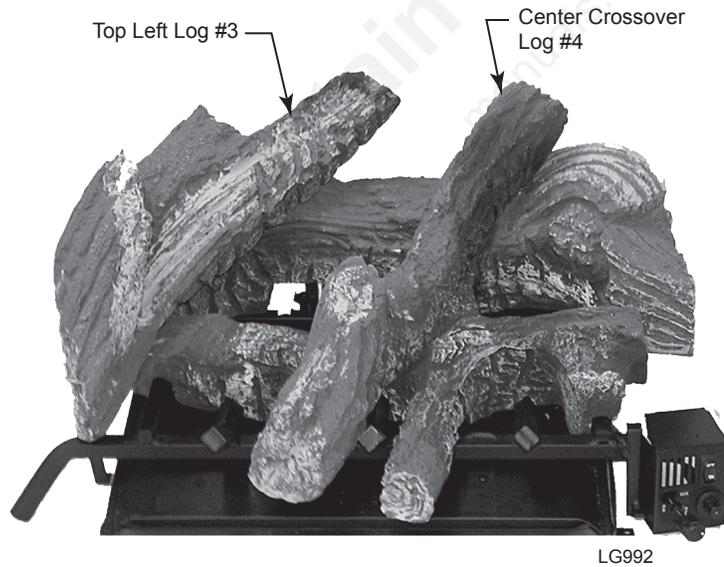

Figure 31
3. Place left top log (#3) on left end of bottom front and back logs. *Figure 31*
4. Place center crossover log (#4) across middle of bottom front and back logs. *Figure 31*